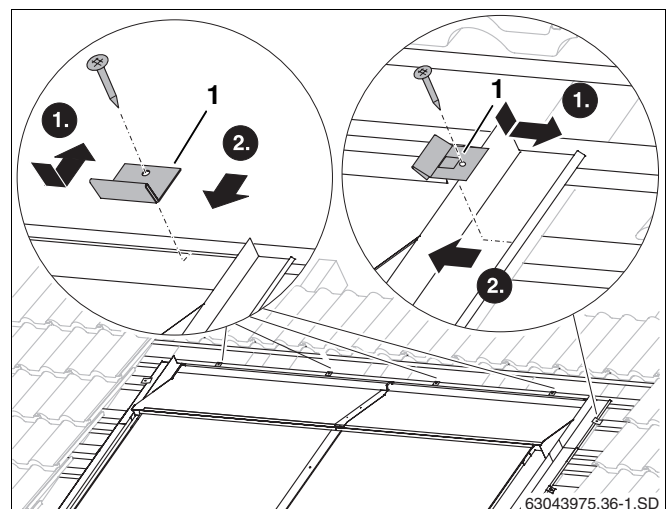

Fig. 58 Fastening upper facing collectors with clips
- Insert clip (Fig. 58, **Item 1**) into the edge of the facing collector.